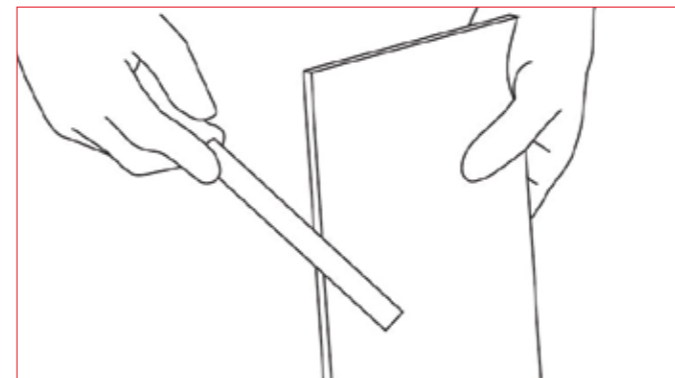

fig.9 – Edge imperfections can be sanded or filed
- Edge imperfections can be sanded or filed using a fine grade of sandpaper or a file (see fig.9)